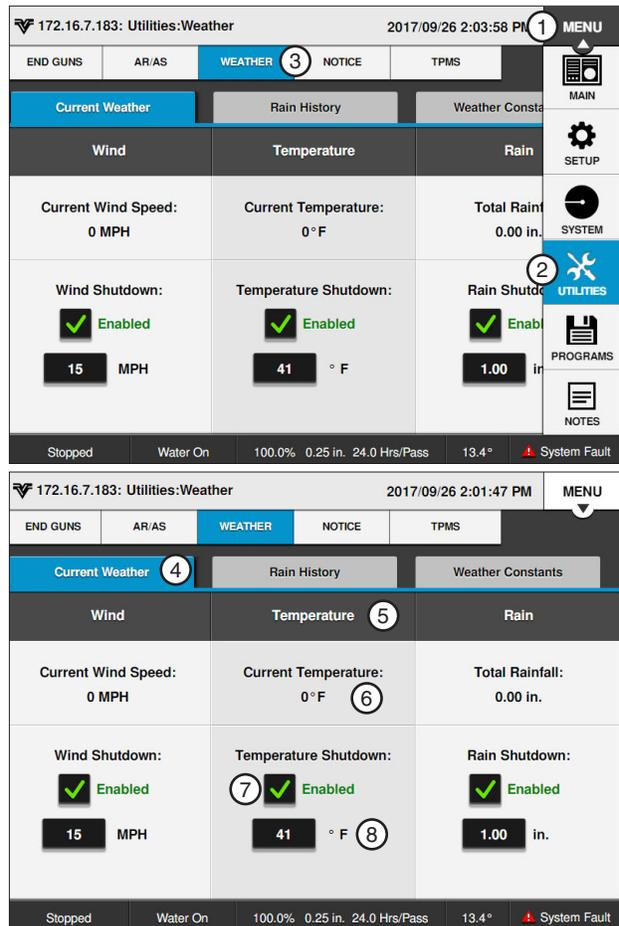

Figure 72-1
1. Push **Menu**, **Utilities**, **Weather** and **Current Weather** to display the Current Weather screen. Refer to Figure 72-1.
Check the **Temperature Shutdown** checkbox to enable the temperature shutdown function and uncheck the checkbox to disable temperature shutdown function. Refer to Figure 72-1.